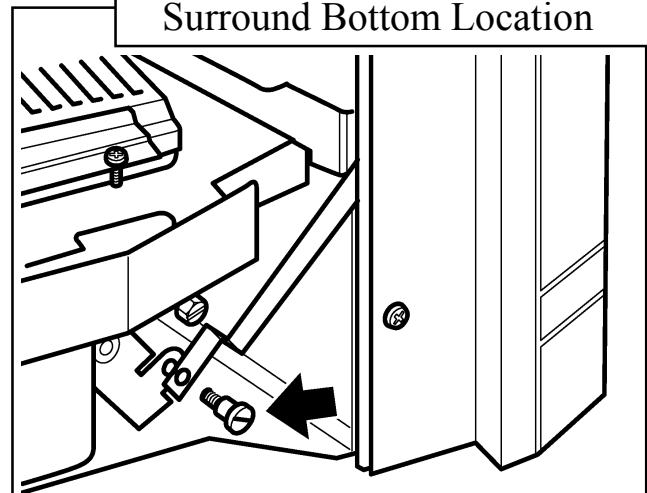

Figure 30. Control Bar & Pivot Bracket
4. Align the hole near the bottom of the control linking bar with that in the control pivot bracket. Join them with the knurled shouldered screw (See figure 30). Make sure that the isolating valve is closed. Slide the control button fully from top to bottom and back to make sure that the slide and pivot mechanisms move smoothly. Note that some resistance should be felt when the slide button reaches the “burner fully on” position.